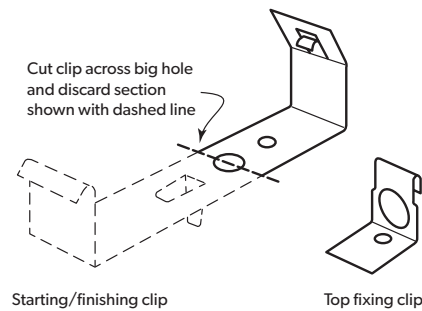

Figure 10.3.2:
1. Locate the first sheet over the fixed starting clips (Figure 10.3.2).
Place the last sheet over the finishing clips, and bend the tab of all clips over the rib. (Similar to the steps used in the first sheet. Figures 10.3.2 & 10.3.3).